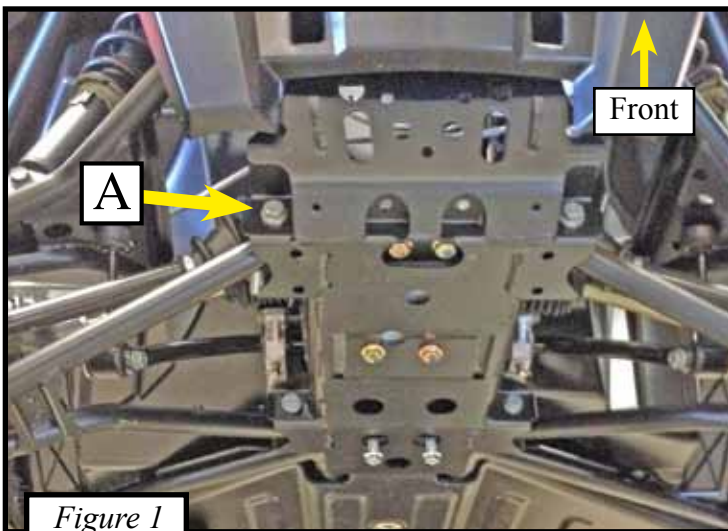

Figure 1
2. Remove bolt [A] from the lower front mount of the front A-arm on the passenger side. Replace the stock bolt with the included M10 bolt (7) going in the opposite direction so the threads are facing out towards the front of the machine. Do the same steps to the driver side now shown in Figure 1. **DO NOT REMOVE BOTH A-ARM BOLTS AT THE SAME TIME.**